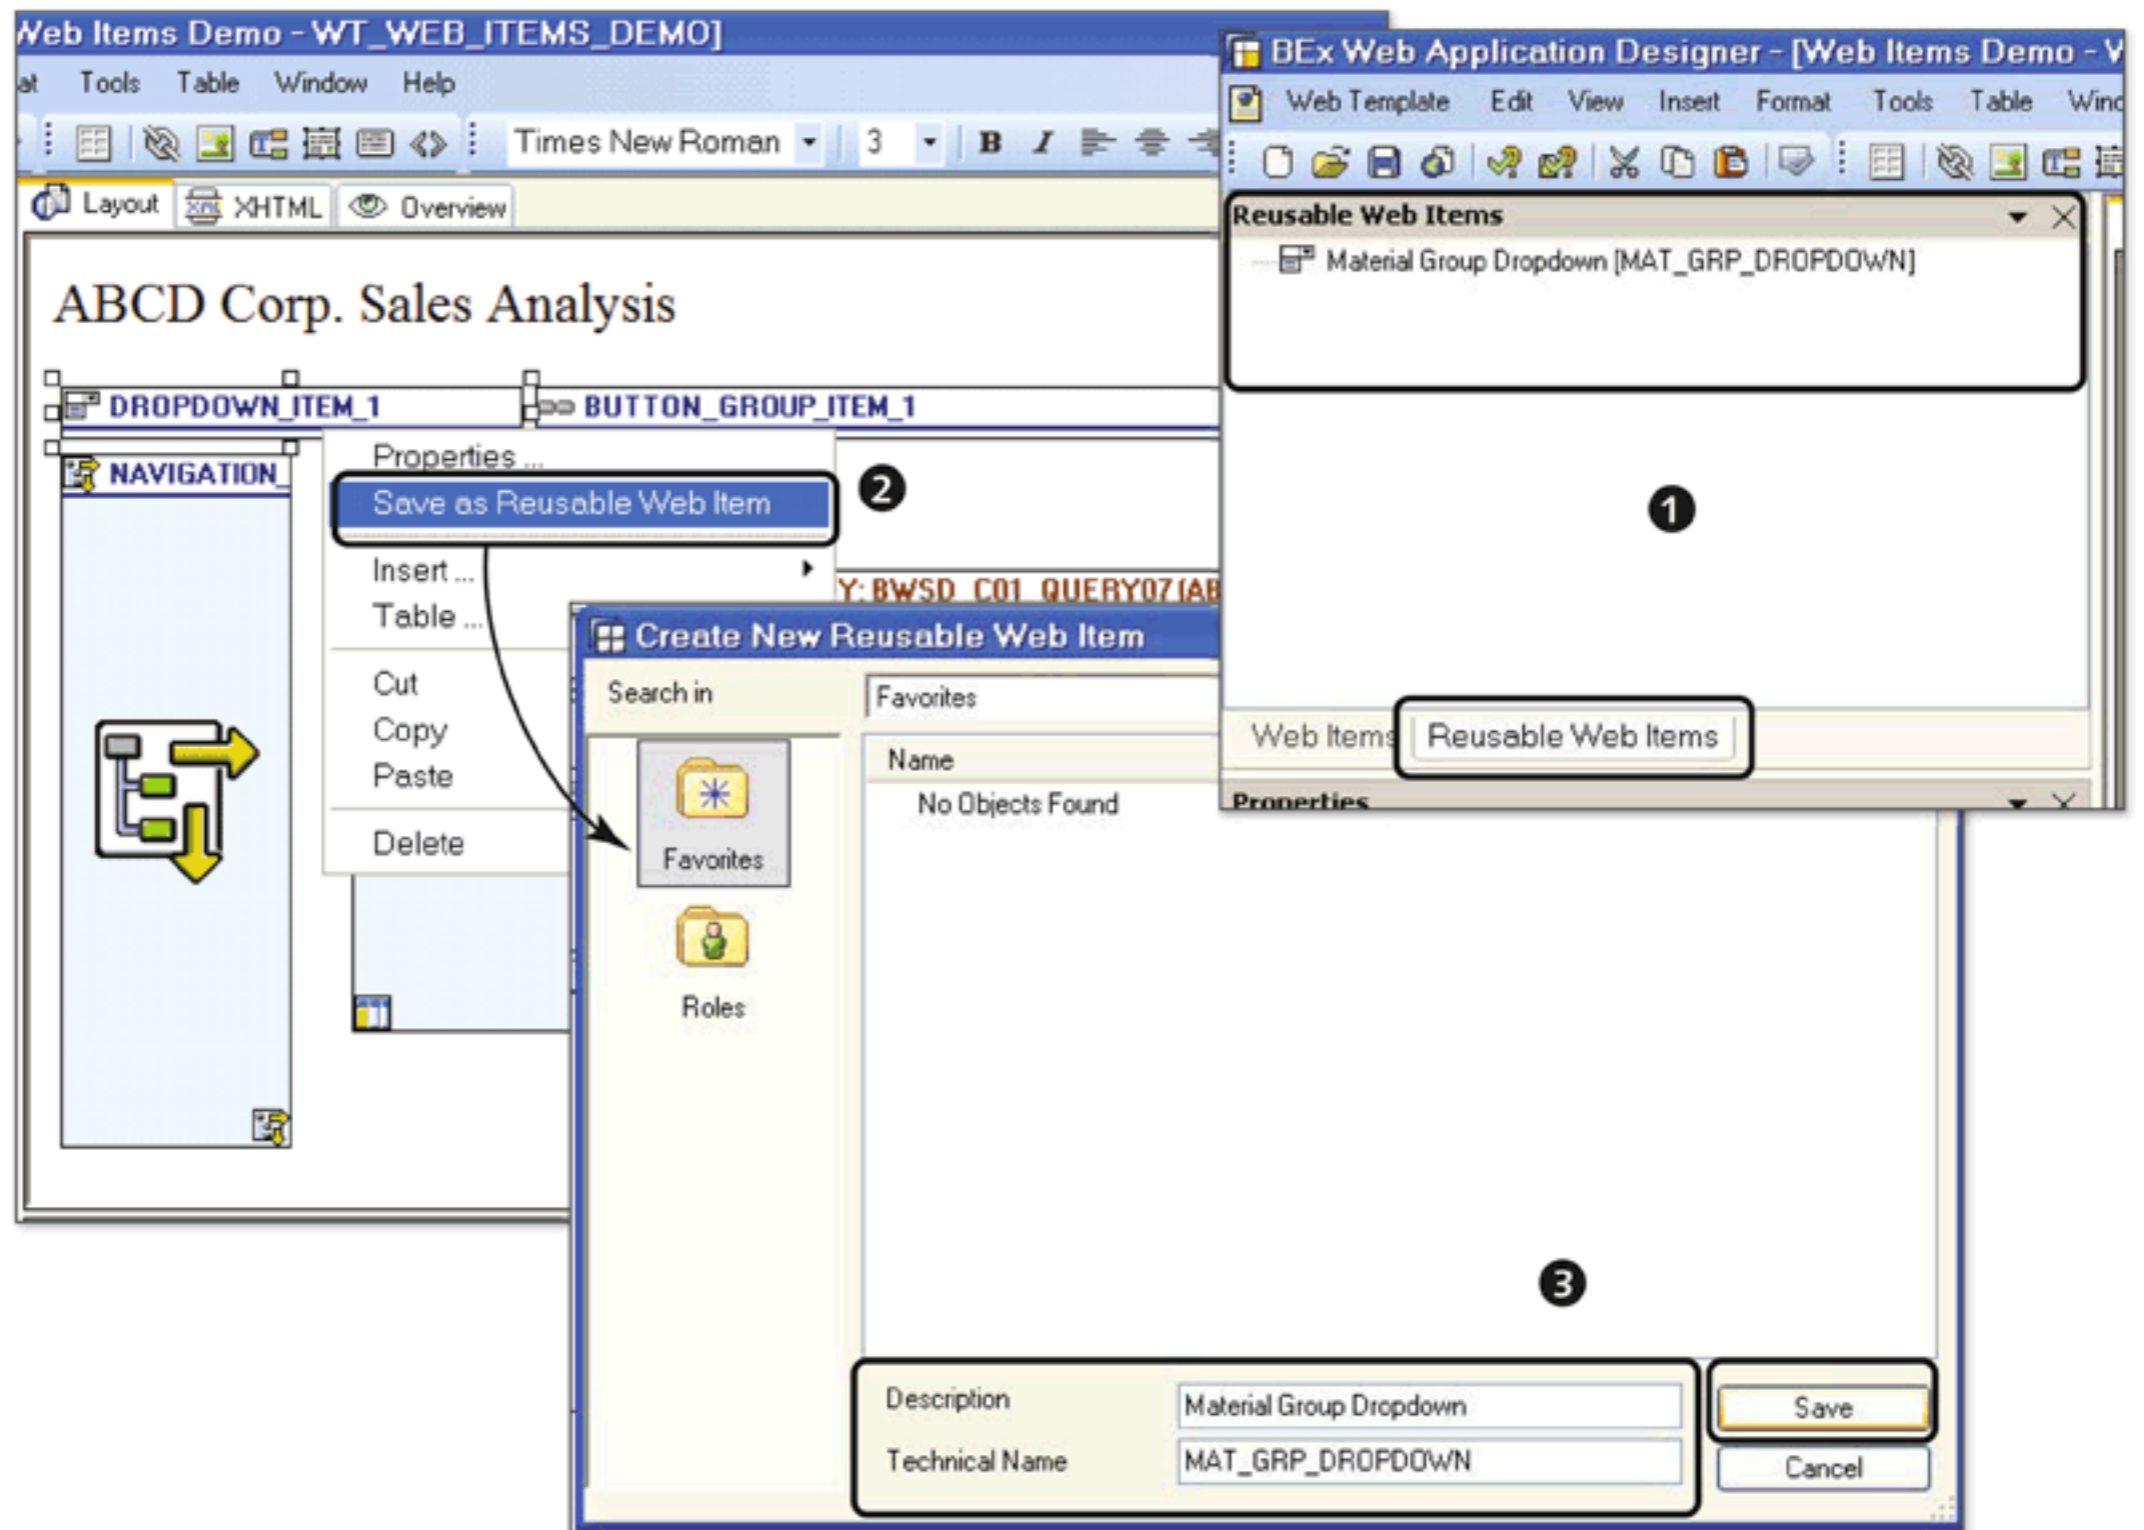

Figure 11.32 Reusable Web Items
Web items that are included and configured in a web template can be saved as REUSABLE web items in BEx Web Application Designer. These saved web items are available under the REUSABLE WEB ITEMS tab in the WEB ITEMS panel (❶ of Figure 11.32).